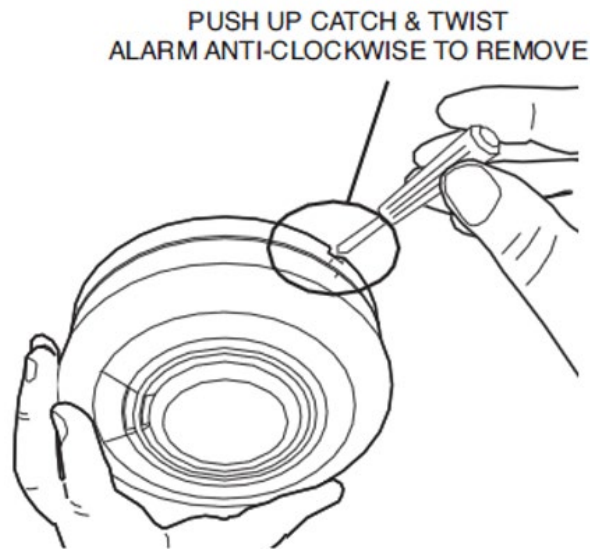

Figure 3 Removing Alarm Heads from EIB603cX and/or EIB650iWX
- Remove the Smoke / Heat Alarm causing nuisance alarm as shown in Figure 3 below. For EIB650iWX and/or EIB603CX, remove the head by disconnecting the adapter board off the Alarm, panel will go into fault.